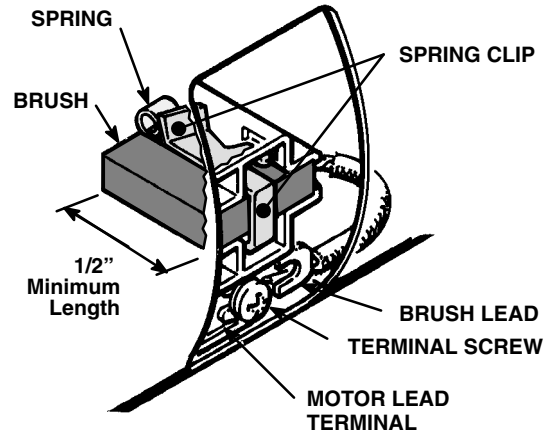

Fig 24
**NOTE:** Replace the brushes when worn to less than 1/2 in. See Fig 24. Check both brushes. Use Brush Repair Kit 220–853.
3. *Loosen* the brush lead terminal screw. Pull only the brush lead away. Remove the brush and spring. See Fig 24.